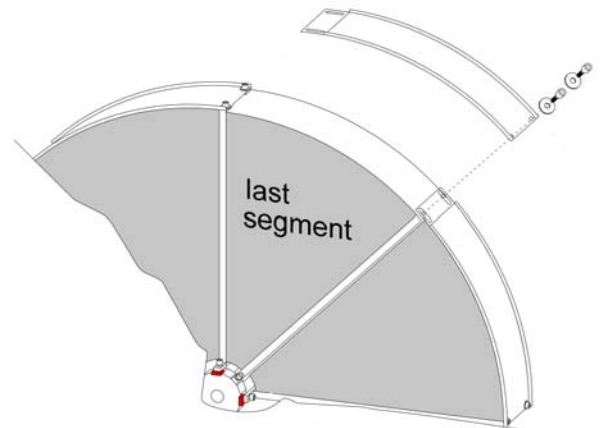

Figure 12
- When the last segment is mounted no spacer discs are needed any more. (Figure 12)
- Integrate the last rotor circumferential panel into the rotor circumferential panel ring (Figures 12 and 13). The last circumferential panel needs to be brought under the first circumferential panel. For this the screws of the first, already attached circumferential panel have to be screwed out again.